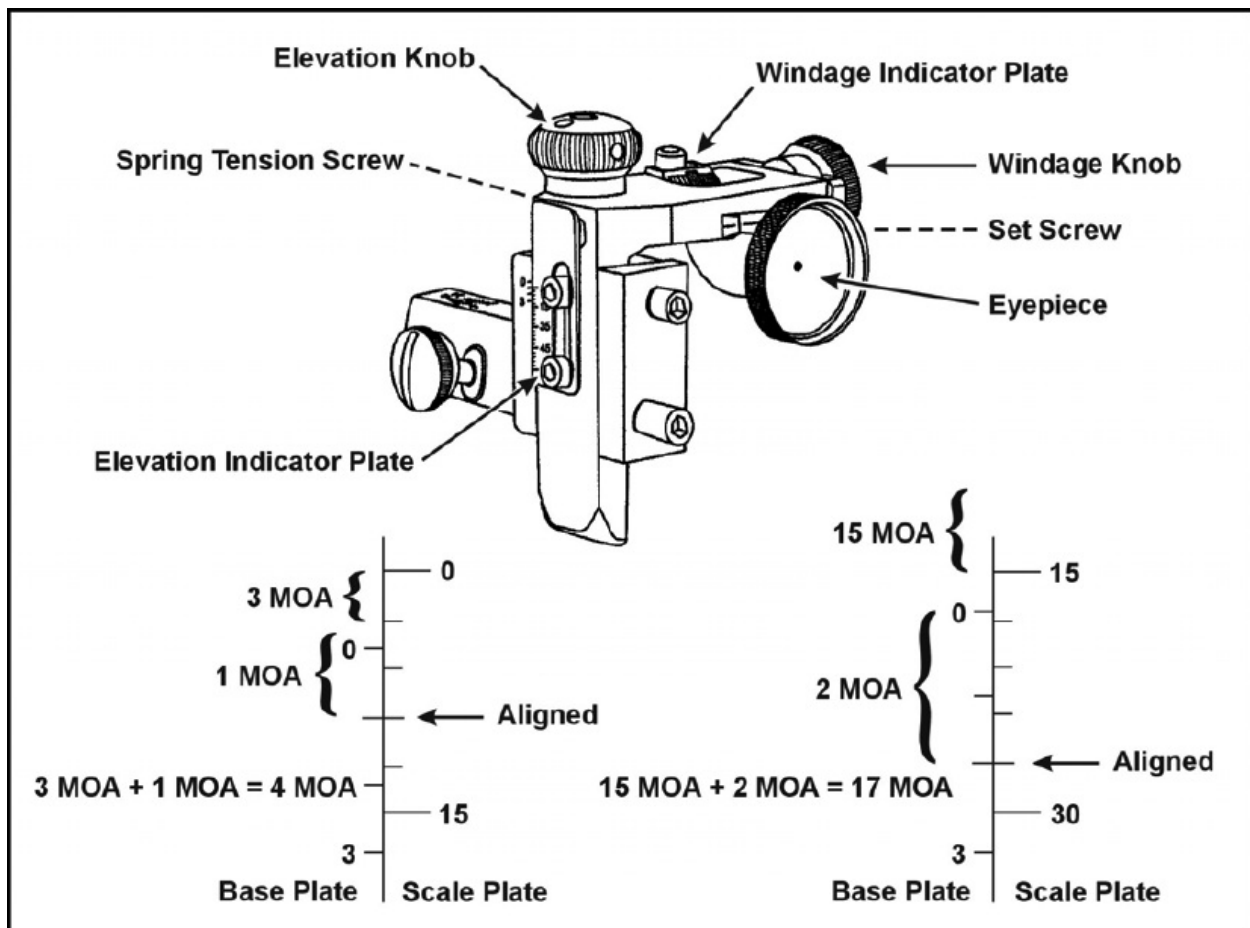

Figure 3-28. Adjusting the elevation and windage on the rear sight assembly
- Notes the point at which graduations on both scales are aligned (Figure 3-28).